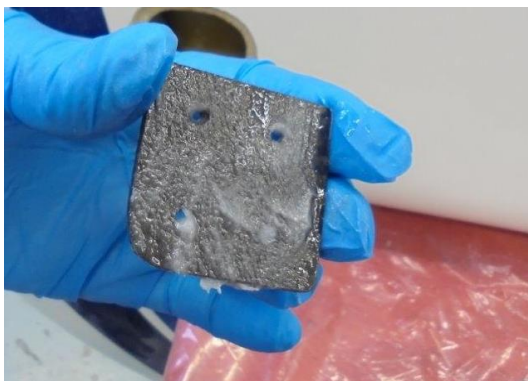

Figure 3: Thickened resin applied to CFRP repair plate
- 7.1.13 Apply thickened resin to the repair plate and to bonding area, refer to Figure 3.
- 7.2.14 Apply thickened resin to the repair plate and to bonding area, refer to Figure 3.